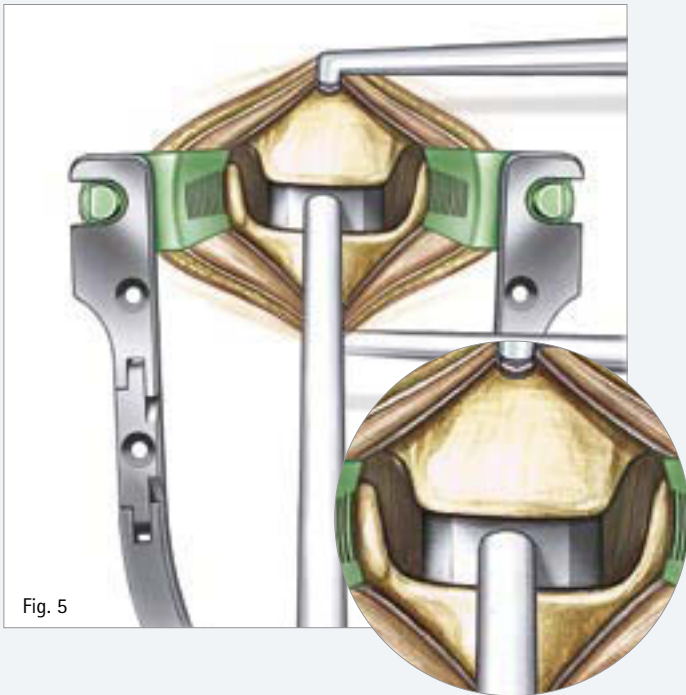

Fig. 5
- The correct size of CeSPACE[®] can be determined using the trial implants (Fig. 5).